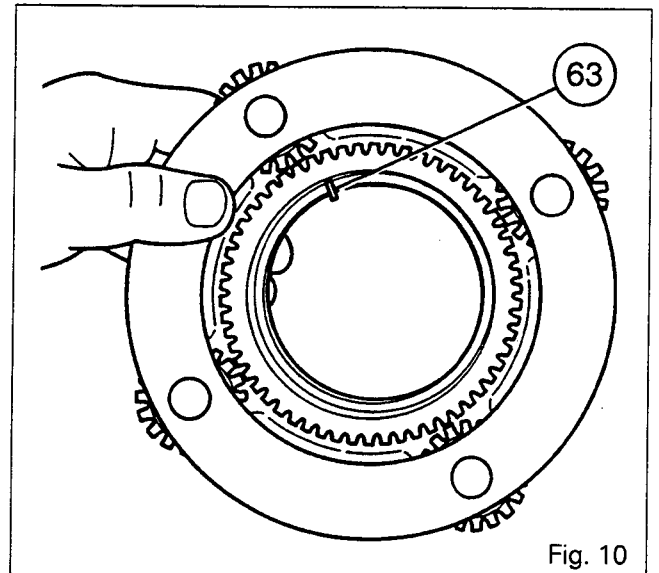

Fig. 10
18. Remove the circlip (55). Remove the bearing (57) and the spacer (56).
19. Separate the secondary planetary carrier (39) from the primary planetary carrier (28).
20. Remove the retaining ring (60) and the bearing (58).
21. Place the secondary planetary carrier in the vertical position. Extract the needles (63) (Fig. 10) by lightly tapping on a wooden block. Separate the planetary carrier from the primary sun gear (64) fitted with the retaining ring (62) and the deflector (75).